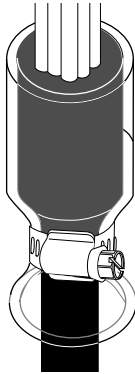

Figure 14
6.7 Uncap the epoxy tube and pour the mixture into the vinyl tube. Fill to the top of the vinyl tube (Figure 14).